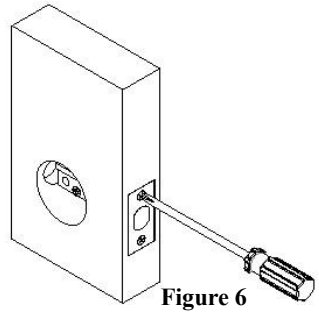
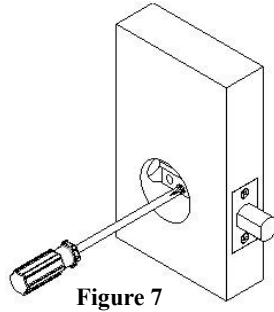
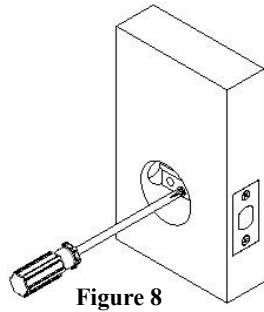

Figure 6
Figure 7
Figure 8
- (1). Hold the part ①, rotate the part ② by 45°, and push part ② ahead. (2). Rotate part ② by 45° in the other direction to make the card pillar of the Lock Body to be embedded into the matching card hole of 60 mm.
3. After the procedure is completed, fix the **Lock Body** using a screwdriver, as shown in **Figure 6**. Insert the screwdriver into the cross-shaped hole of the **Lock Body**. When you rotate the cylinder clockwise, it springs out automatically, as shown in **Figure 7**. When you rotate the cylinder counterclockwise, it springs back automatically, as shown in **Figure 8**.